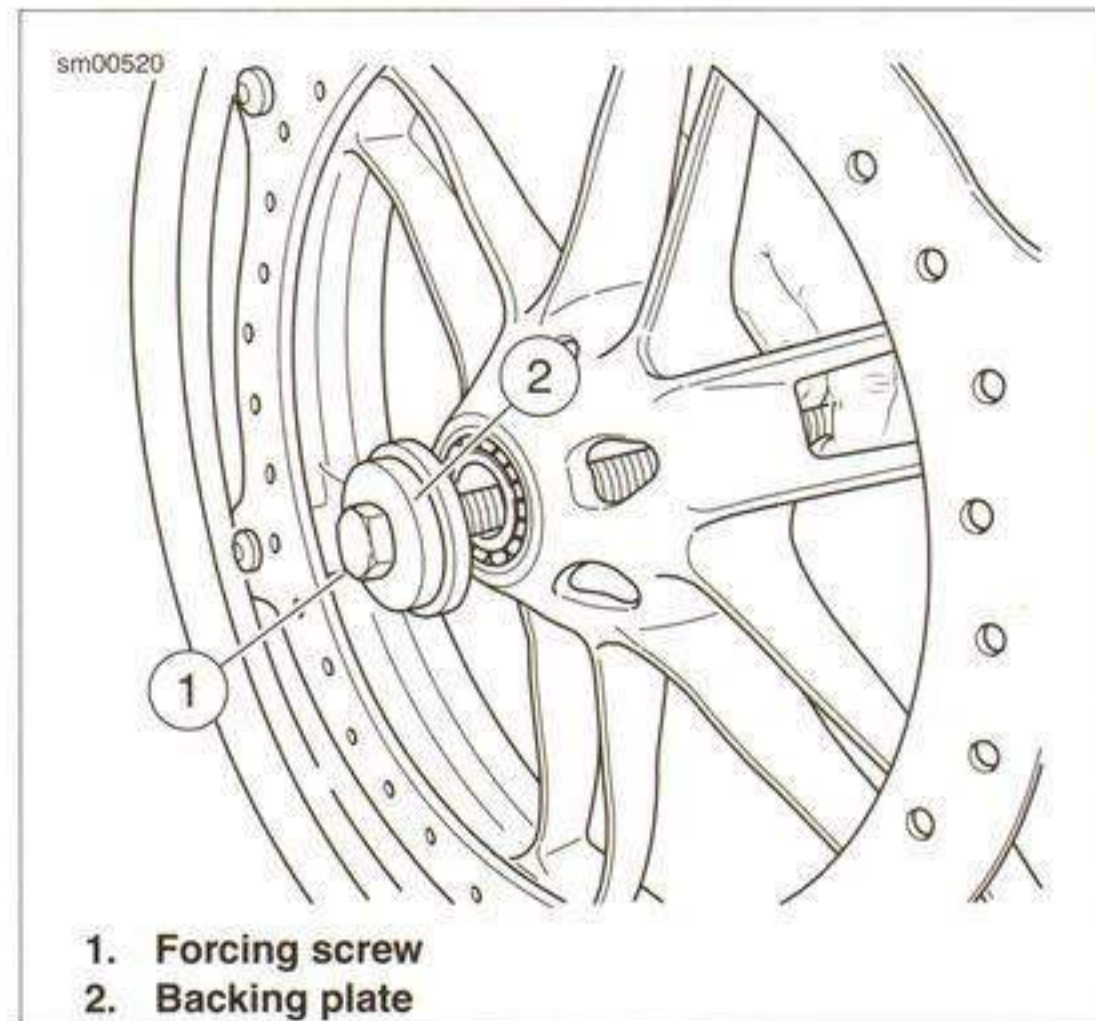

Figure 2-46. Insert Forcing Screw and Backing Plate
1. See Figure 2-46. Remove the backing plate (2) from the long forcing screw (1). Install the backing plate onto the